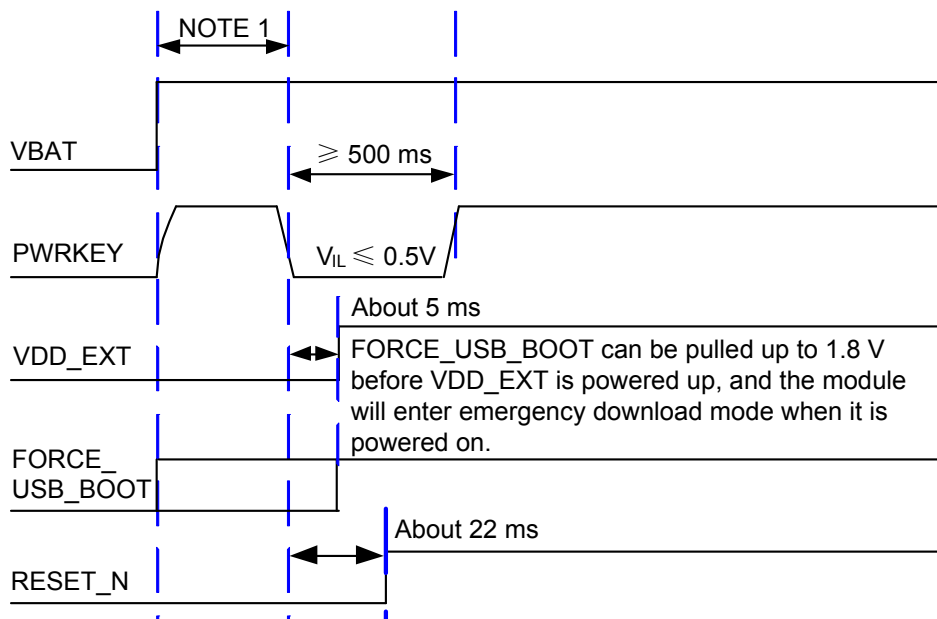

Figure 27: Timing Sequence for Entering Emergency Download Mode
2. When using MCU to control module to enter the emergency download mode, please follow the above timing sequence. It is not recommended to pull up FORCE_USB_BOOT to 1.8 V before powering up VBAT. Directly connect the test points as shown in **Figure 27** can manually force the module to enter download mode.